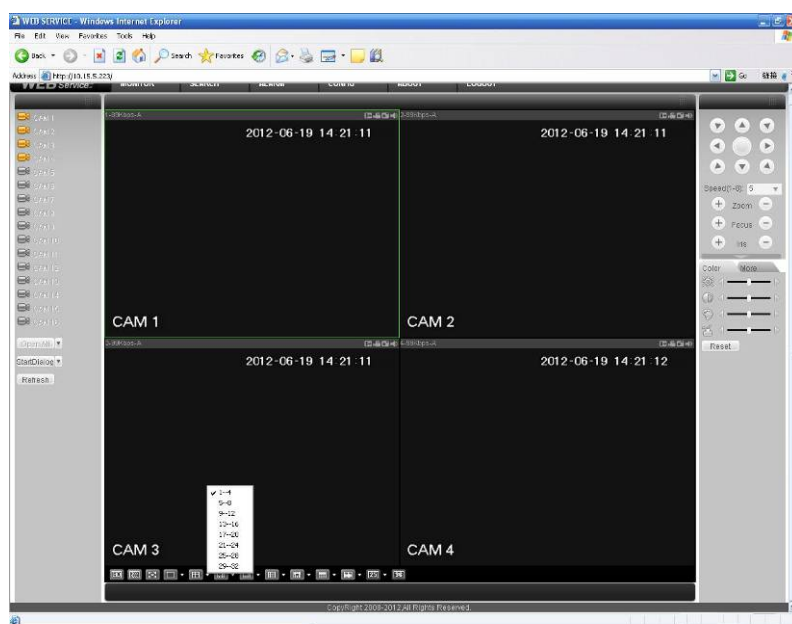

Figure 7-20
- 2) You can select different channel and different monitor mode at the bottom of the interface. See Figure 7-20.